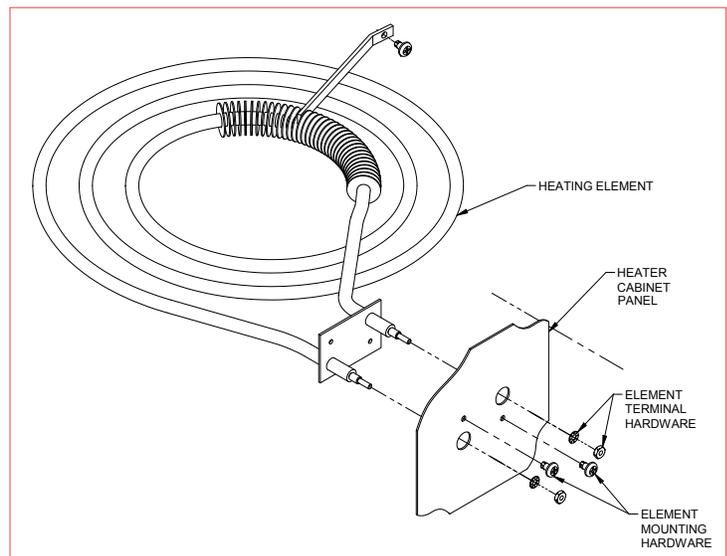

Figure 3 - Heating Element Assembly
2. Install factory-supplied replacement heating element (see Figure 3 - Heating Element Assembly).